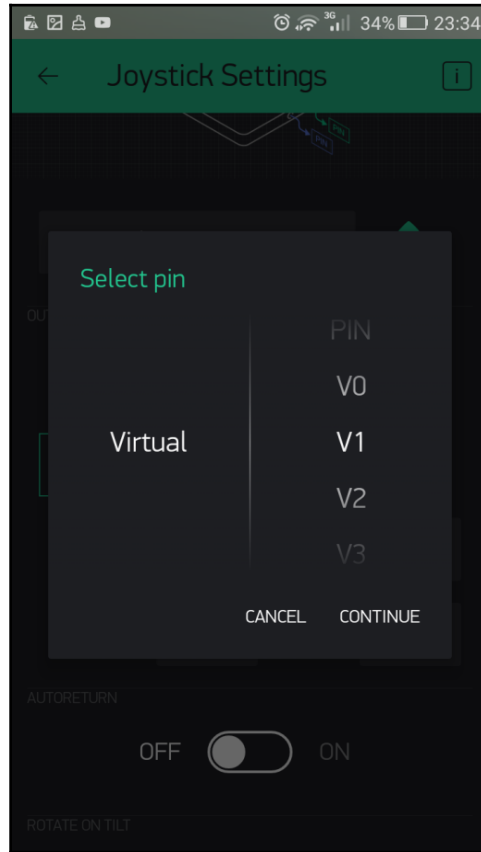

Figure 4.7: Selecting the virtual pin V1
- **MERGE** mode can be used with virtual pins only. Use the virtual pin **V1**. This will allow the joystick widget to write to pin **V1** (Figure 4.7):